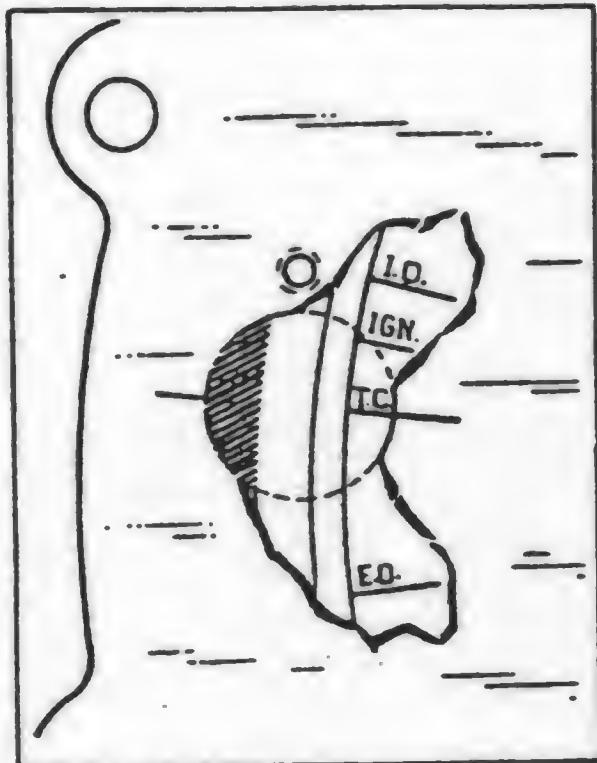

FIG. 16 TIMING MARKS (FLYWHEEL)
5. *Ignition Timing.*—Check the ignition timing by using a neon timing light, if available, and make any adjustment needed. A small arm attached to the throttle shaft arm may be turned over and forward to a position that will hold the throttle at an idle position and cause the engine to operate at the moderate speed necessary for use of the neon timing light. If the neon timing light is not available, crank the engine very slowly by hand, stopping exactly when the breaker contacts separate at firing position for No. 1 cylinder. Then check the position of the IGN mark on the flywheel, (Fig. 16), as seen through the timing hole in the flywheel housing on the left side of the engine. Timing is correct if the IGN mark is at the center of the hole at the instant the points separate. Repeat the checks a time or two for accuracy. If necessary to adjust the timing, loosen the clamp bolt, turn the distributor body to the proper position and tighten the bolt. Then recheck to verify the correctness of the new setting.